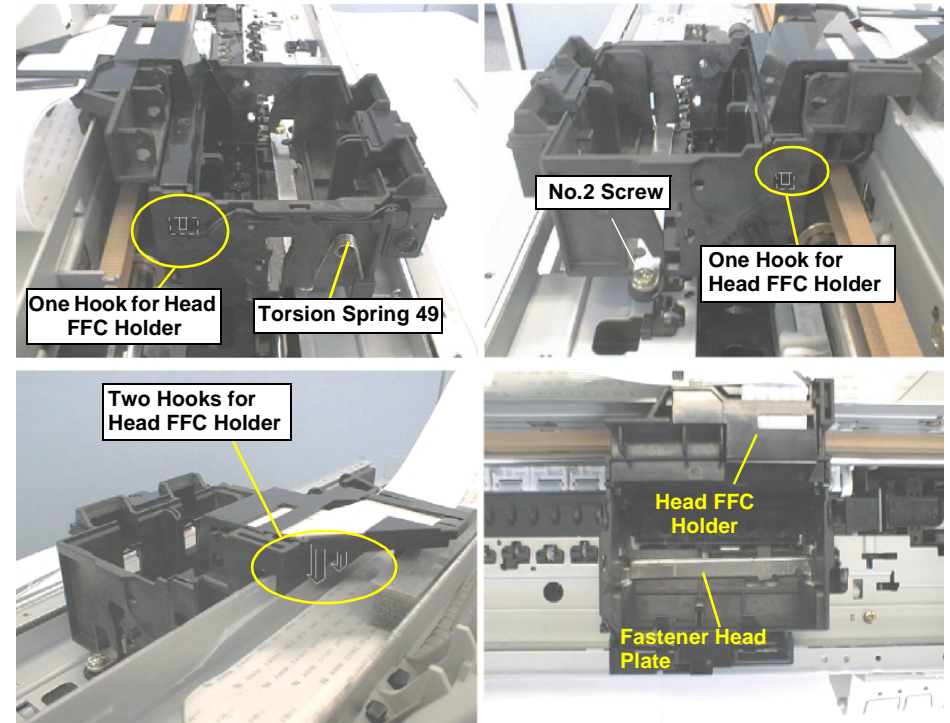

Figure 4-7. Removing the Printhead
- 5) Remove the Torsion Spring 49 from the left side of the CR Assembly and one screw (No.2) securing the Fastener Head Plate. Then take out the Fastener Head Plate. Refer to the Figure 4-7.
- 6) Remove the Head FFC Holder from the CR unit by releasing four hooks. (Two hooks; Left/Right sides of CR unit, Two hooks; Back sides of CR unit) Refer to Figure 4-7.